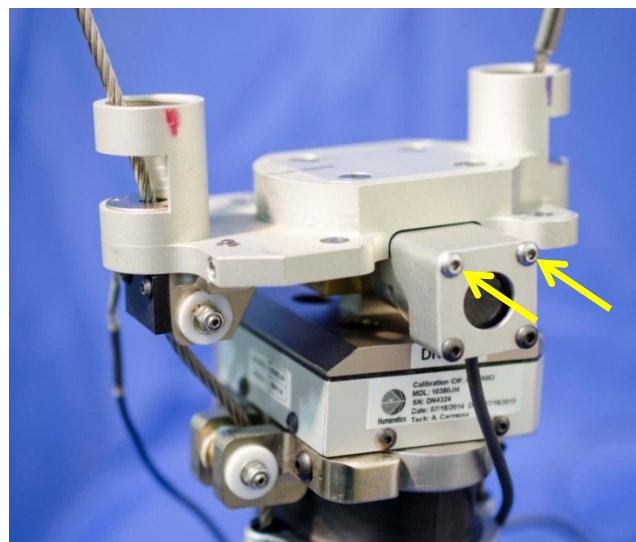

Figure 4-41. Attach rotary potentiometer housing to head neck mounting platform
- 4.2.2.29 Once this is complete, insert the potentiometer shaft into the O.C. pin. Tighten the M3 x 0.5 x 3 mm SSS cone point set screw against the potentiometer shaft. Attach the rotary potentiometer housing to the head neck mounting platform with two M3 x 0.5 x 30 BHCS at the top of the housing (Figure 4-41).